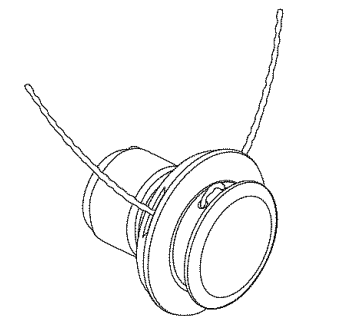
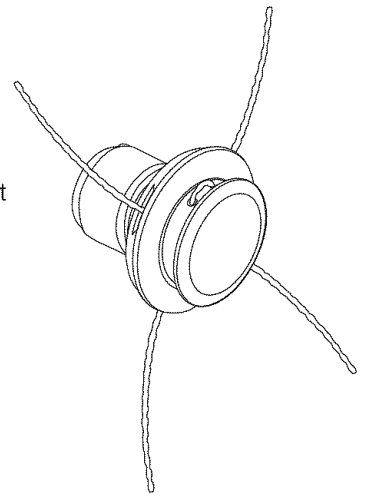

Fig. 12
Fig. 13
CAUTION: Before operating this unit, be sure that the release button is fully snapped into the primary hole (Fig. 12), and that the knob (Fig. 13) is securely tightened.
6. Correctly installed line will be the same length on both sides (Fig. 12).
8. Correctly installed, the four lines will all be the same length (Fig. 13).
8. Reinstall the air filter/muffler cover (Fig. 13).